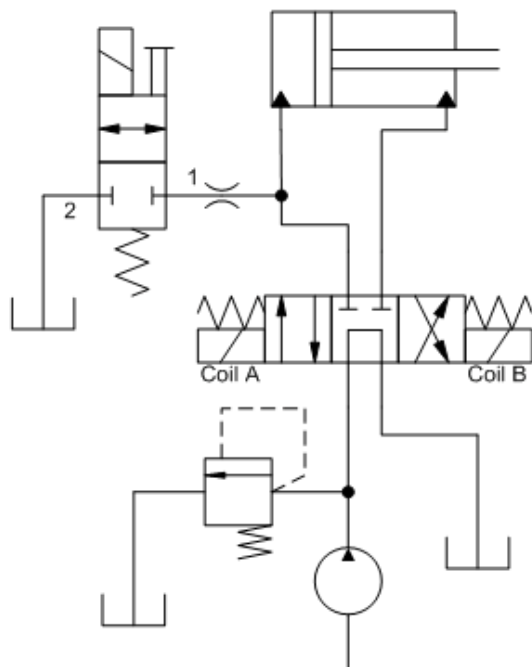

Figure 7.
- Figure 7 shows the DLDA can be used in a cylinder decompression application. *(Orifice placement, upstream of the valve, is critical in preventing valve saturation.)*